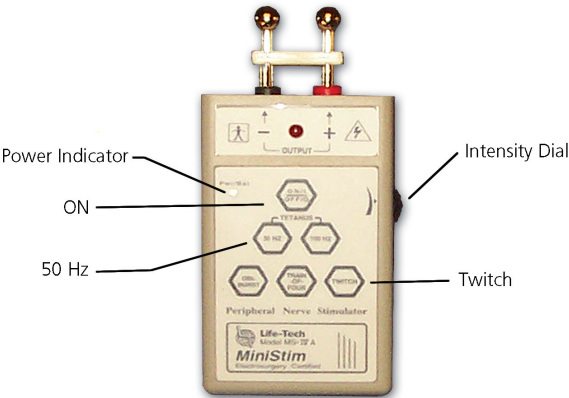

Figure 24
Prepare the peripheral nerve stimulator by pressing: (1) ON, (2) 50 Hz and (3) Twitch; then (4) set the intensity dial in between 0 and 1. The orange power indicator light will be seen to indicate that the peripheral nerve stimulator is on. (Extra 9V batteries should always be available) The red light on the peripheral nerve stimulator will flash when a circuit between the stimulator, the nerve and the muscle is completed. (Figure 24)